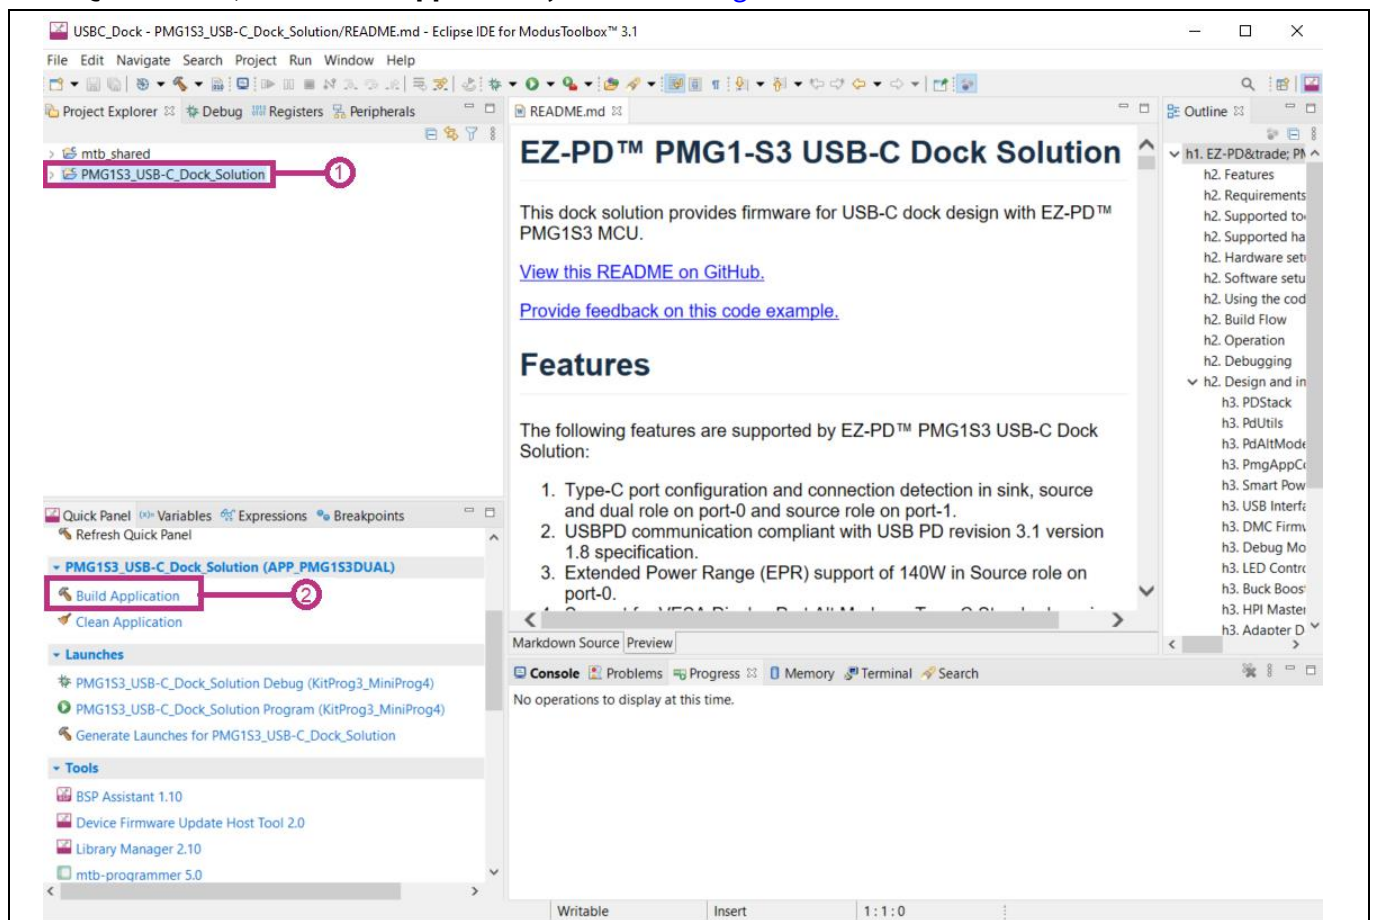

Figure 6 Building application using Eclipse IDE for ModusToolbox™ software
2. In **Quick Panel**, select **Build Application**, as shown in Figure 6.